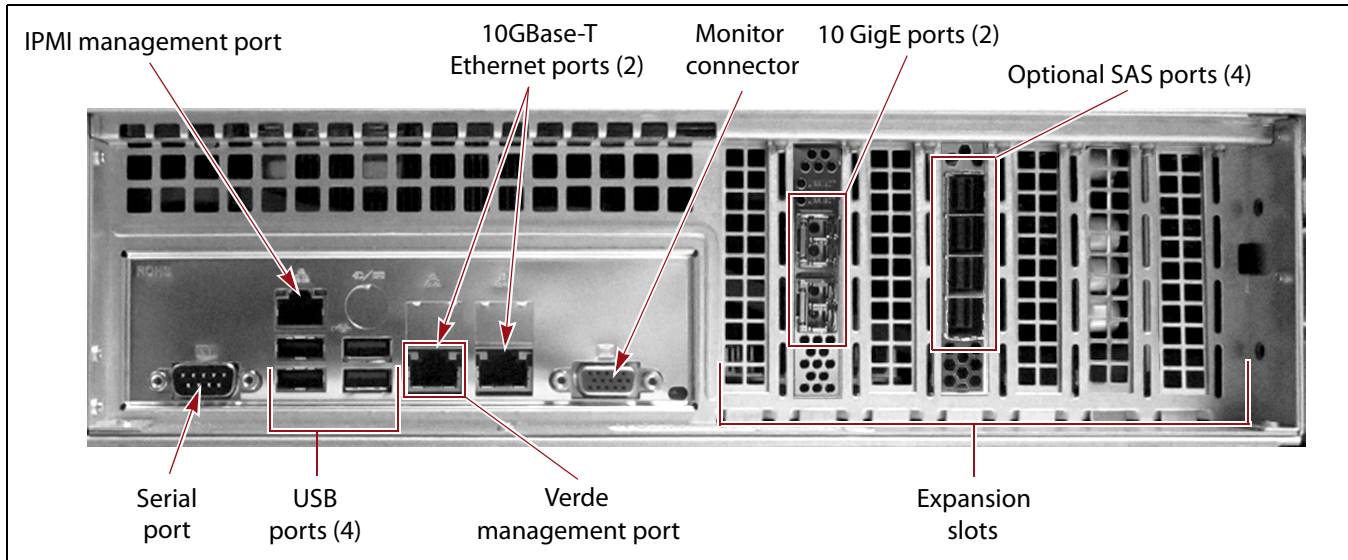

Figure 43 The Verde master node rear panel components.
Connect the remaining cables to the system. Figure 43 shows the location of the connectors. The locations of the connectors are similar on the Verde 4U master node and the Verde 2U master node.
2. Connect an Ethernet cable from your network switch to the appropriate connector (10GBase-T or 10 GigE) on the rear panel of the master node (see Figure 43). This connection provides host access to the RAID storage on the master node. If you plan to configure link aggregation, connect additional cables as needed.